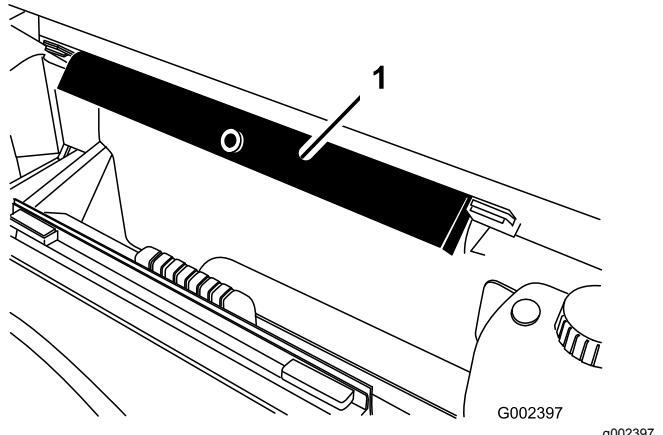

Figure 88
7. Remove the bed support from the storage brackets on back of the ROPS panel (Figure 88).